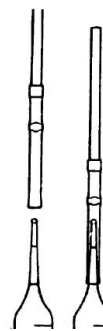

Figure 2
2. Slide the open end of the valve assembly over the tapered tip of the ampoule so that it fits snugly to the Reference Line (Figure 2).